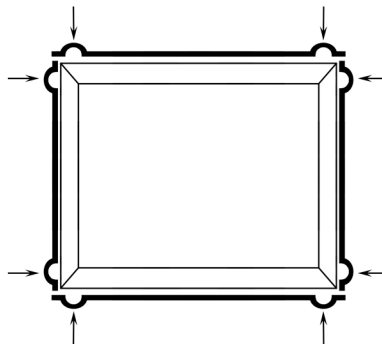

Fig 4 - Tape application at corners (Note: oversize length 10mm/m)
- If installing tape into a construction joint, it may be applied either horizontally or vertically (from bottom to top.) However, when applying to a door or window frame the horizontal seals must be applied before the vertical ones (Fig 4). Tape must be applied with the adhesive side to the frame when working with fenestration but may be applied in any order when working with construction joints. In both cases, do not stretch the tape. When